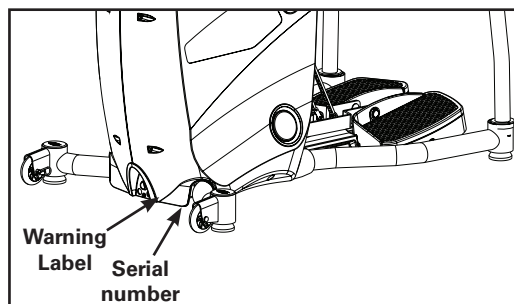

Figure 1
**BEFORE USING YOUR PRODUCT:** Find and read all warning labels located on the StairMaster® Commercial Series SC916 StairClimber, prior to using your product. Be sure to replace any warning label if damaged, illegible, or missing. If you need replacement labels, please call a Nautilus® Representative at (800) 628-8458 (North America) or (41) (26) 460 77 77 (International office).
**Location:** Affixed to the lower front of the left side cover (see Figure 1).